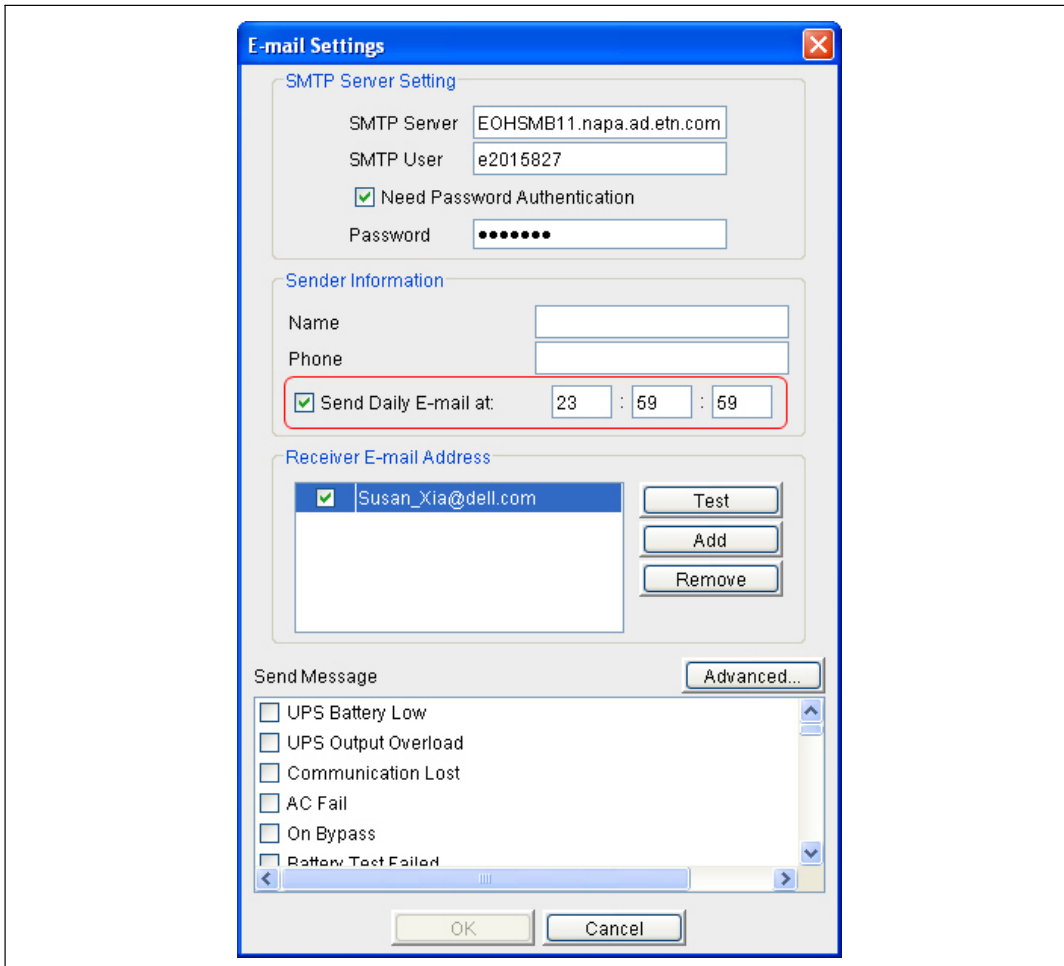

Figure 51. Sender Information
- 3 To send a daily e-mail at a specific time, select the check box and enter the time of day in 24-hour format (see Figure 51). The e-mail contains two attachments: the Event Log and Data Log files for the preceding 24 hours.